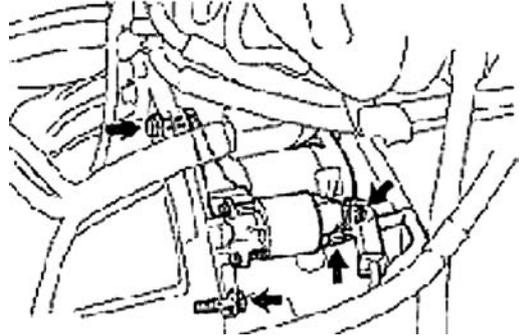

Figure 90
1. Detach starter assembly. See (Figure 90)